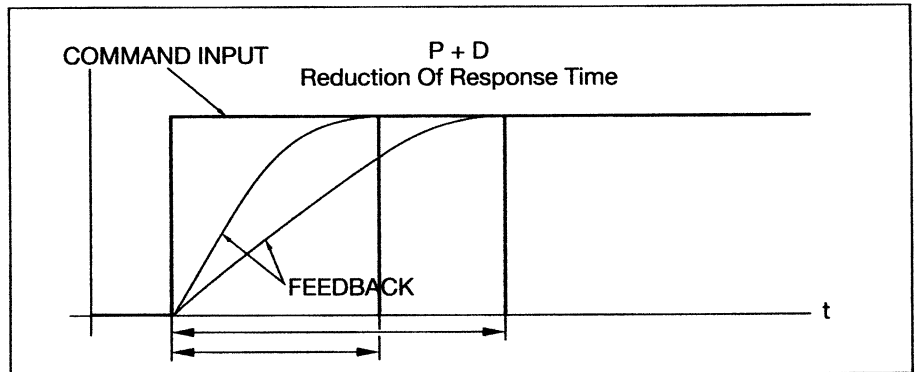

Figure 7. Better response using additional P and D Gain.
7. When overshoot has been eliminated, measure the response time once again. You should see a marked improvement, as shown in Figure 7.